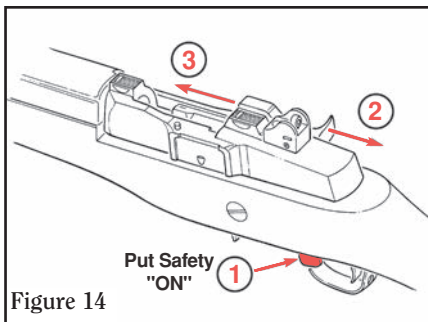

Figure 14
2. Pull the slide handle all the way to the rear and release. Make sure safety is “ON” (see Figure 14). **NOTE: Hammer must be cocked and safety must be “ON” to accomplish disassembly and reassembly. Again, be sure chamber is empty!**